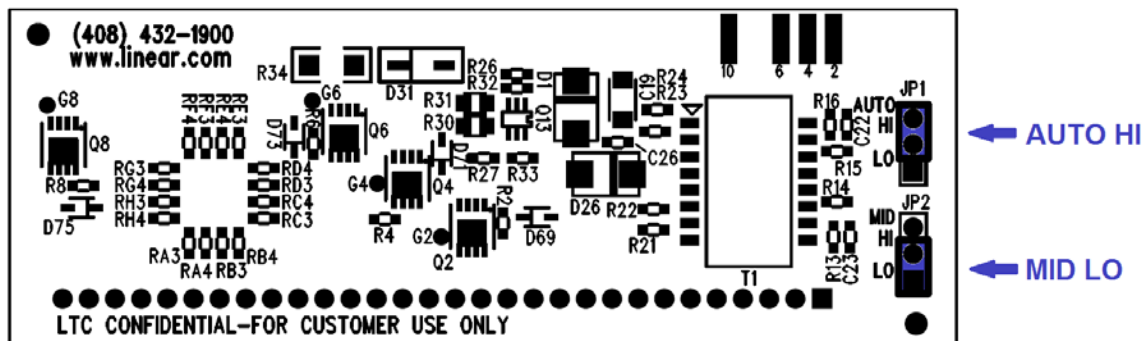

Figure 1. DC1842A Backside. Setting AUTO and MID Jumpers
Demonstration kit DC1843A includes the DC1842A daughter card and DC1680A motherboard. The kit is set up for evaluating the LTC4290B/LTC4271. Follow the procedure below and refer to Figures 1 through 4 for proper equipment setup.
1. On the DC1842A set AUTO jumper JP1 to HI (Figure 1) to enable AUTO pin mode.
2. On the DC1842A set MID jumper JP2 to LO (Figure 1) to disable midspan mode.